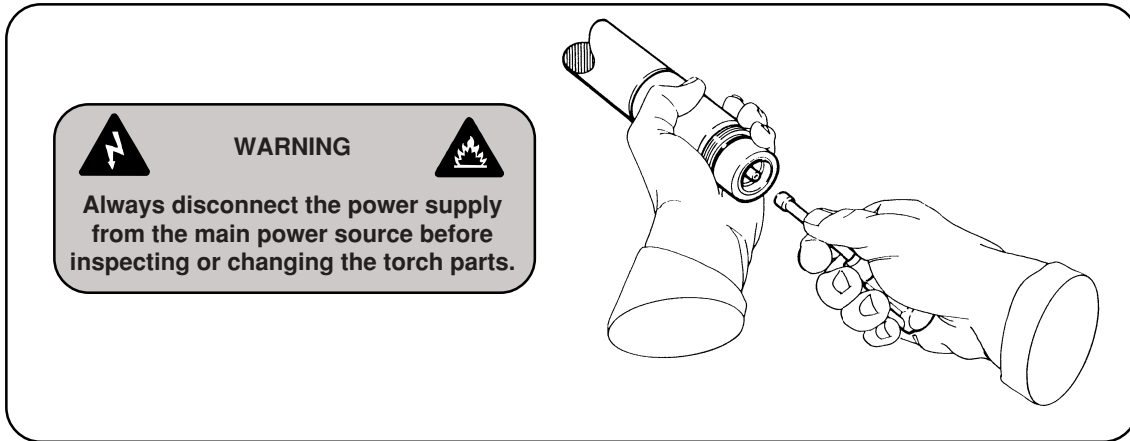

Figure 3-8 Changing the Water Tube
4. Remove and replace the water tube by using the water tube wrench (027347) supplied by Hypertherm - Fig. 3-8. **When installing water tube, do not over tighten!** Snug down by hand only.